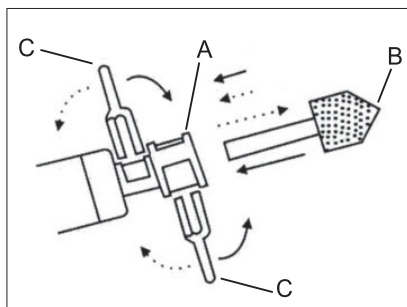

FIGURE 2 – CHANGING ACCESSORIES
- Remove nut (A) and insert tip (B) in the grinder chuck;
- Replace nut (A) and tighten it with wrenches (C), as shown in Figure 2.